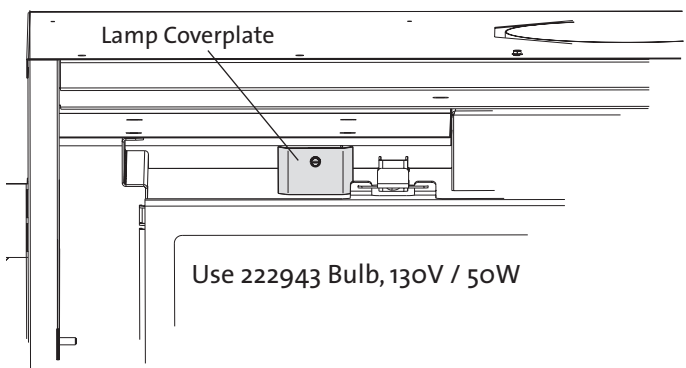

Figure 8.4. Remove cover plate to access lamp bulb.
- Remove lamp compartment cover plate. See fig.8.4.